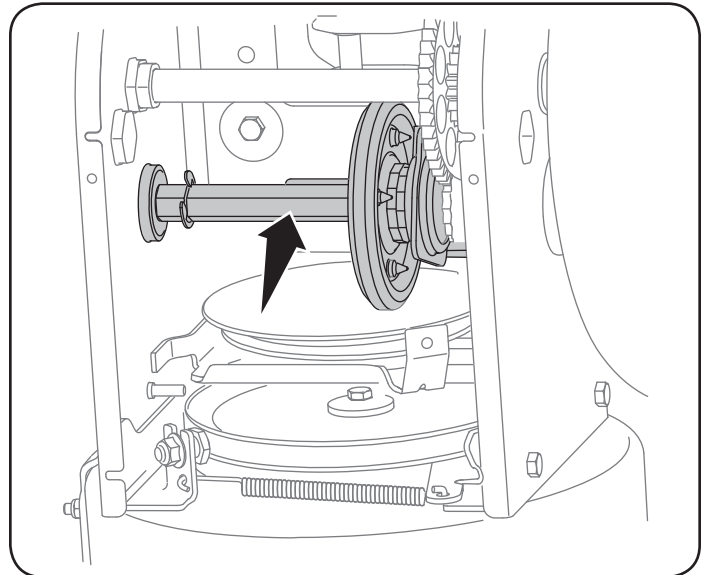

Figure 15
4. Apply a light coating of engine oil (or 3-in-1 oil) to the hex shaft. See Figure 15.